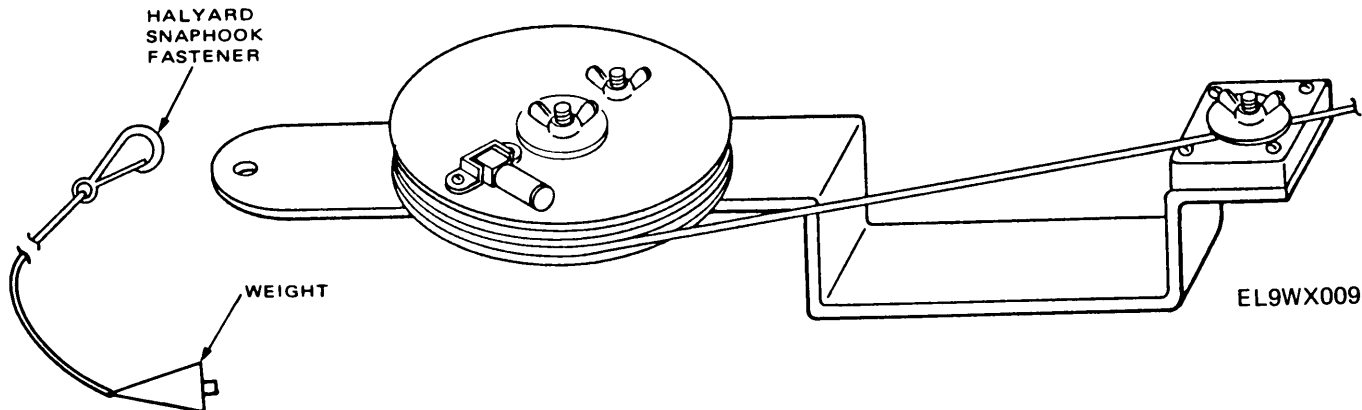

Figure 2-7. Attaching Halyard to Reel Assembly.
- (j) Attach each reel assembly to halyard snaphook fastener (fig. 2-7).